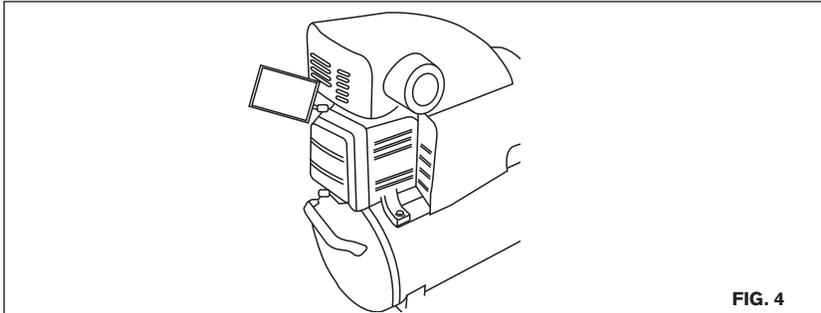

FIG. 4
2. Clean the oil level daily, and replenish if necessary (Fig.4)